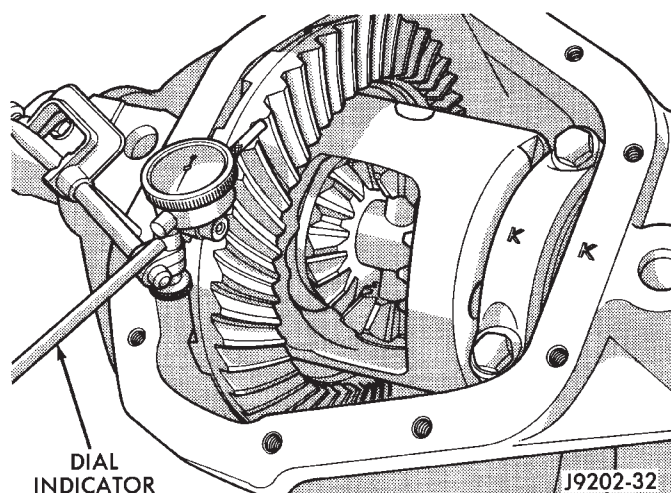

Fig. 50 Ring Gear Backlash Measurement
(1) Rotate assembly several revolutions to seat bearings. Measure backlash at three equally spaced locations around the perimeter of the ring gear with a dial indicator (Fig. 50).